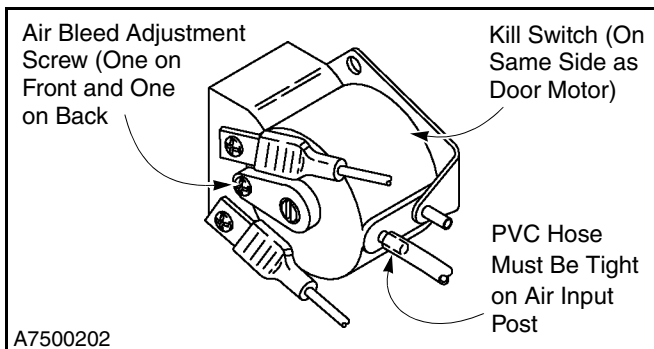

Figure 30
1. Make sure the clear PVC hose is tight on the air input post so that air leakage cannot occur and vibration will not cause the hose to fall off. Make sure the hose is not kinked. (See Figure 30.)
2. The air bleed has been set at the factory and should not require adjustment. To check the air bleed, turn the air bleed adjustment screws located on the front and back of the switch fully clockwise, but do not overtighten. Then turn the screws back counter-clockwise one full turn. (See Figure 30.)